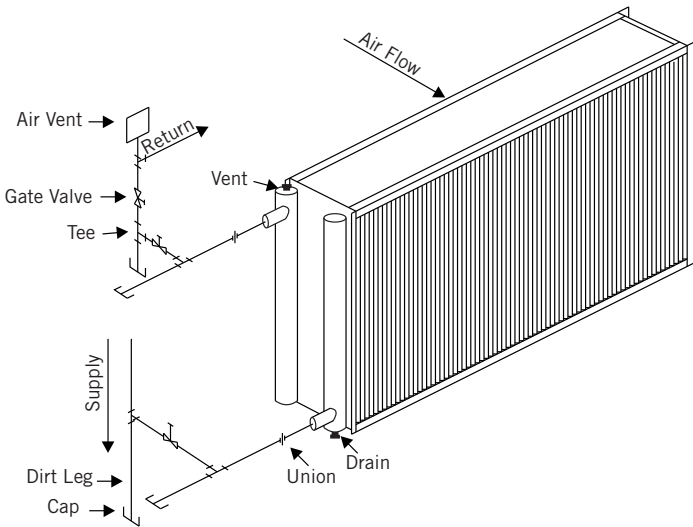
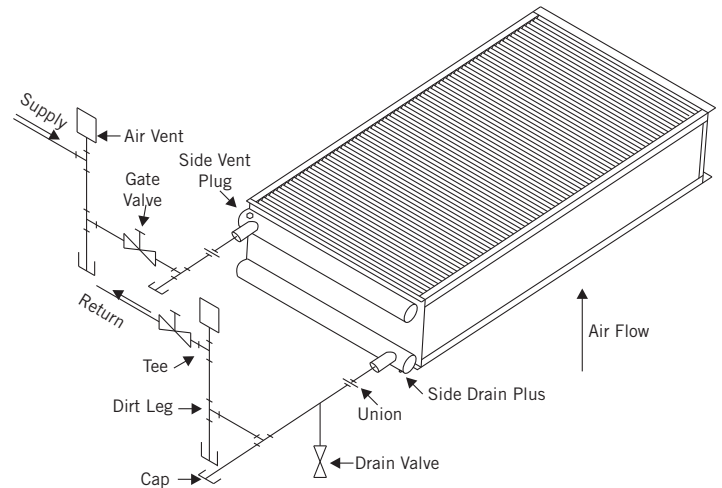

Figure 1. Horizontal Airflow
Figure 2. Vertical Airflow
- General piping diagrams can be found in Figure 1 - Horizontal Airflow and Figure 2 - Vertical Airflow.
1. Isolate the coil from the rest of the system by closing the valves on both the supply and return lines (gate valves in Figure 1 - Horizontal Airflow and Figure 2 - Vertical Airflow on Page 3).
- Isolate the coil from the rest of the system by closing the valves on both the supply and return lines (gate valves in Figure 1 - Horizontal Airflow and Figure 2 - Vertical Airflow on Page 3).